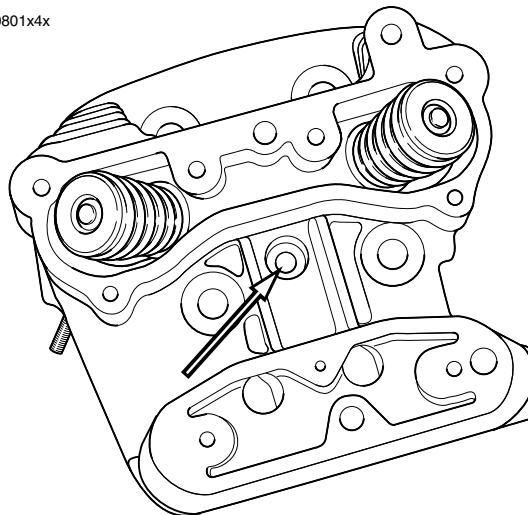

Figure 4-75. Engine Temperature Sensor Location (rear cylinder)
See Figure 4-75. The Engine Temperature Sensor (ET Sensor), located in the rear cylinder head, monitors the engine temperature close to the combustion chamber. In addition to aiding the ECM in monitoring the operation of the engine, it is also used to warn the operator of potentially damaging temperatures by causing the CHECK ENGINE lamp to blink during operation.
1. See Figure 4-75. Screw sensor into rear cylinder head.